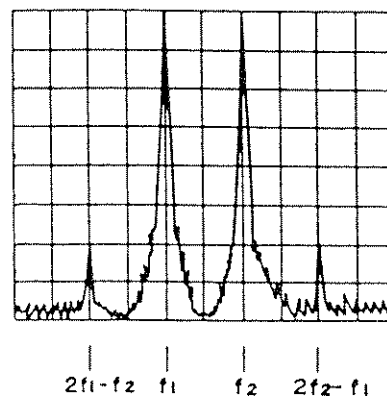

Fig. 6-8 Inter Modulated Wave Spectrum Display
(2) Inter modulation product measurement
In this case, the screen display shown in Fig. 6-8 is obtained by the display expansion measurement procedure (1) in "Modulated Wave Measurement" 6.2 and the level of each spectrum is measured.
(3) Random spurious signal measurement